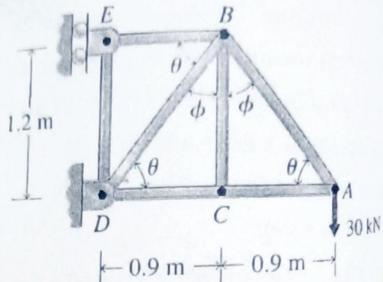

Fig 2.92
4) A vertical load of 30 kN is applied to joint A of the truss for given fig 2.92. Determine the member forces and the support reactions.